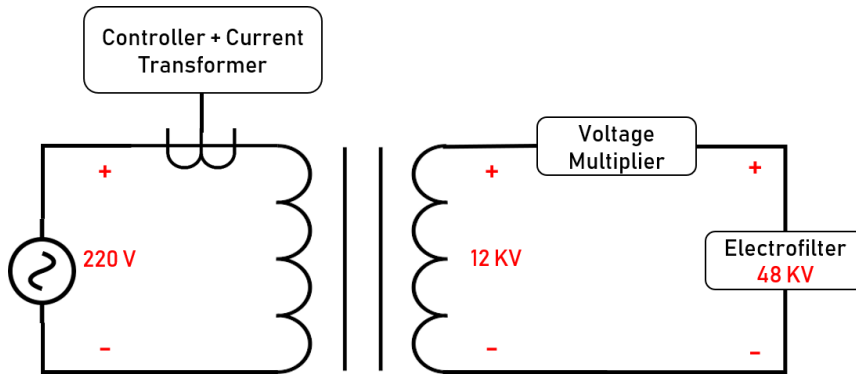

Figure 3. System Diagram
The current sensor measures instantaneous current by converting the electrical field generated by the current passing through a conductor into voltage. The drawing below in Figure 3 shows the location of the current sensor in the real system. The CT is connected into the primary and the readings will be transformed to secondary by ideal transformer relation between the 2 windings as in equation (3) below.